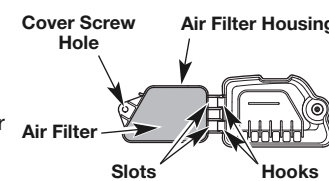

Fig. 17
2. Remove the air filter from inside the air filter housing (Fig. 17).
6. Reinstall the air filter inside the air filter housing (Fig. 17).
7. Insert the hooks on the air filter housing into the slots on the air filter cover (Fig. 17).
8. Swing the air filter cover to the left and align the cover screw with the cover screw hole (Fig. 17). Tighten the cover screw to secure the air filter cover.